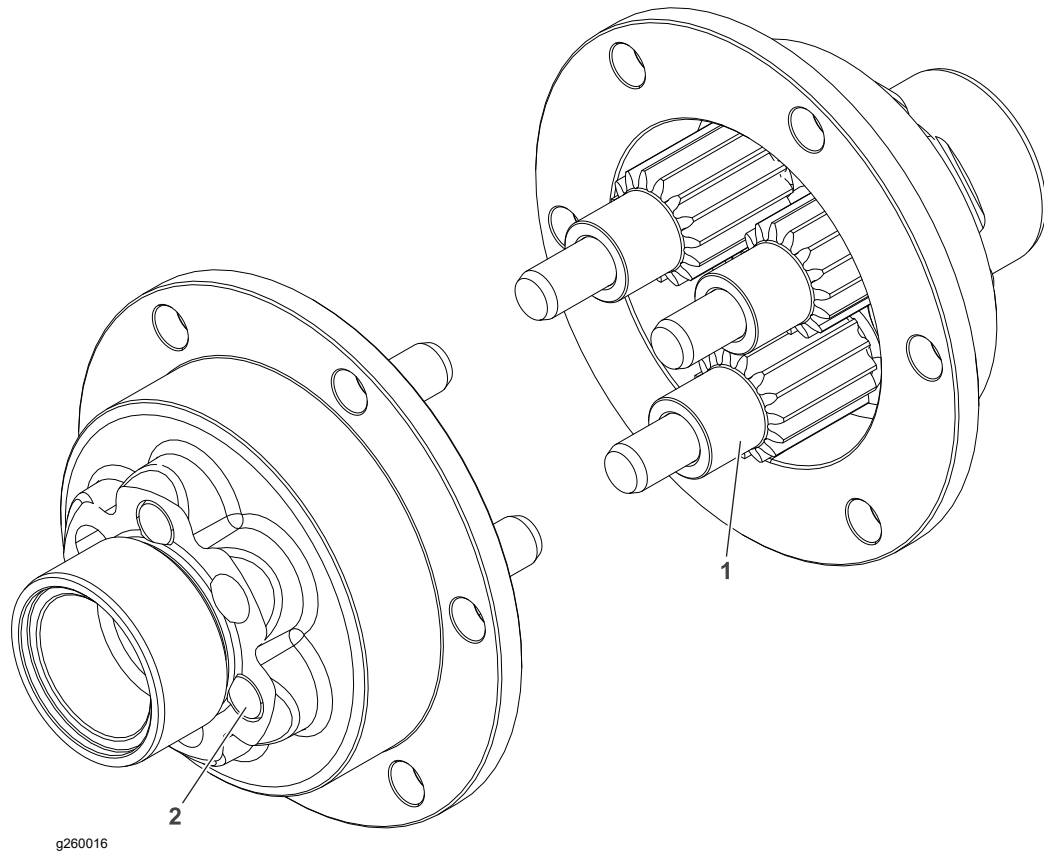

Figure 30
3. The differential pins (2) must be inserted in alternate holes of the differential housing (1) and ensure that the differential pins (2) are flush to the surface of the differential housing; refer to Figure 30.
4. Apply a coat of grease to the differential spur gears (3) and the differential pins (2).
5. Insert the differential spur gears (3) to the differential pins (2) by pointing the gears shoulder up.
6. Fill the differential housing assembly (1) with **0.08 lb (1.25 oz)** of grease.
7. Attach the 2 differential housings (1) to each other.
8. Slide and install the differential housing assembly (1) into the differential gear (4) and secure with the 6 socket head screws (5).
9. In alternate pattern torque tighten the socket head screws (5) to **10 to 12.4 N·m (90 to 110 in-lb)**.